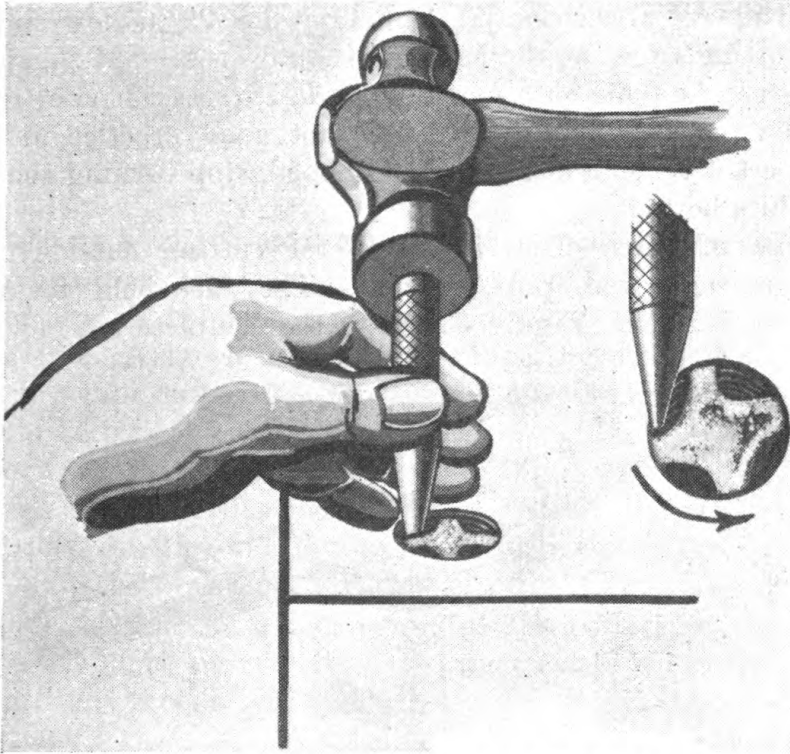

FIGURE 61.—Removing broken tap with punch.
(1) *Chisel or punch*.—Broken taps can often be removed by using a small, blunt cold chisel or a taper punch, as shown in figure 61. This will frequently start the tap; the job can be completed with a tap extractor as described below. Taps often shatter when they break; if this happens, the broken pieces should be picked from the hole with a small prick punch or a magnetized scriber before any attempt is made to remove the tap.